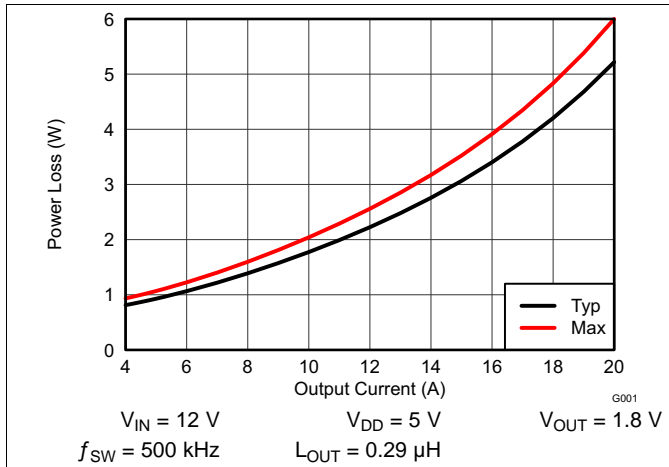
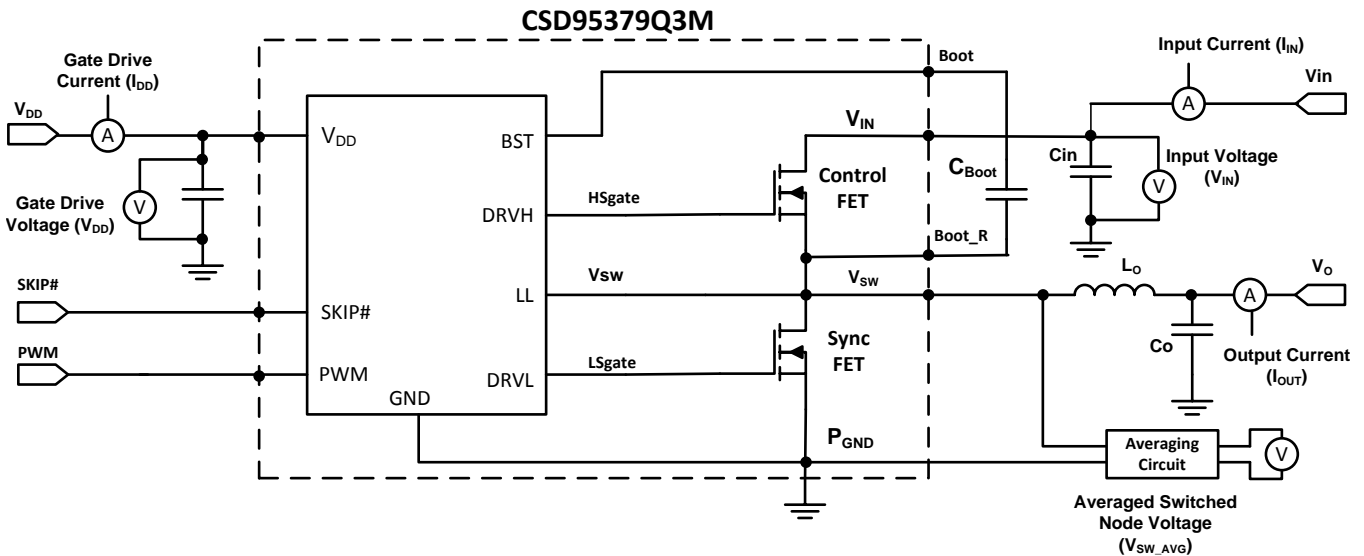

Figure 1. Power Loss vs Output Current
Figure 12. Power Loss Test Circuit
MOSFET-centric parameters such as $R_{DS(ON)}$ and Q_{gd} are primarily needed by engineers to estimate the loss generated by the devices. In an effort to simplify the design process for engineers, TI has provided measured power loss performance curves. Figure 1 plots the power loss of the CSD95379Q3M as a function of load current. This curve is measured by configuring and running the CSD95379Q3M as it would be in the final application (see Figure 12). The measured power loss is the CSD95379Q3M device power loss which consists of both input conversion loss and gate drive loss. Equation 1 is used to generate the power loss curve.
The power loss curve in Figure 1 is measured at the maximum recommended junction temperature of $T_J = 125^\circ\text{C}$ under isothermal test conditions.
- Typical power loss at 10 A = 1.8 W (Figure 1)